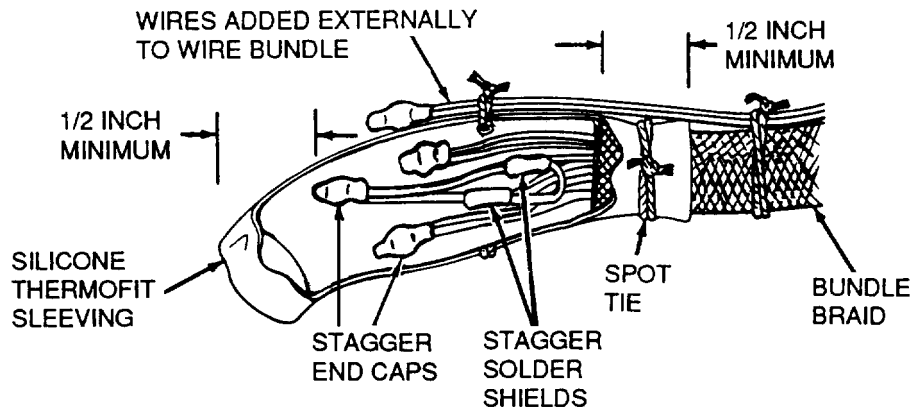
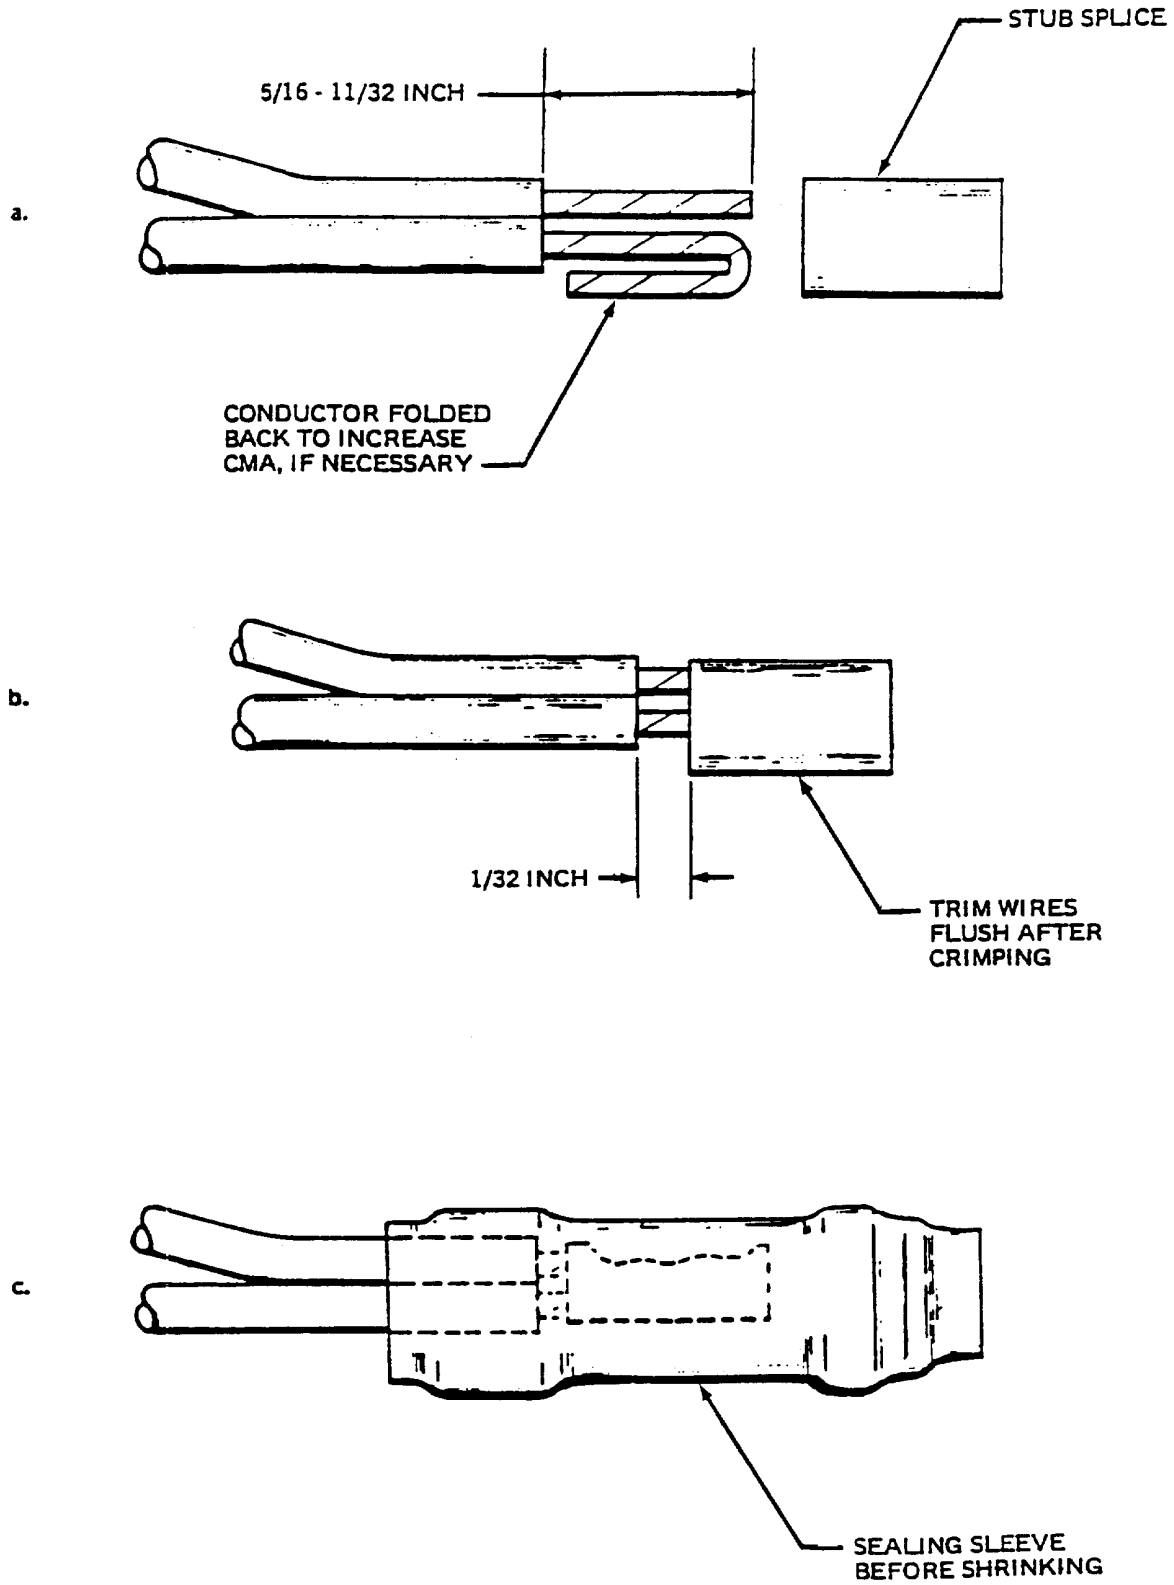

Figure 11. End Cap Area with Parallel Splices.
Figure 12. Environmental Sealed Stub Splice Installation
- e. When more than one wire in a harness is end capped, ensure wires are cut to stagger end caps to maintain harness dimensions (Figure 11).
- i. Completed stub splice assembly must meet dimensional requirements (Figure 11).
- (1) Individual stub splices have been completely insulated.
- (2) Splices have been staggered to limit bundle enlargement.
- b. Select the correct size stub splice by comparing the total Circular Mil Area (CMA) of the wires to be spliced (Table 5) with the CMA range of the crimp barrel (Table 6). The total CMA of the wires to be crimped together must fall within the range listed for a particular crimp barrel. The total CMA of the wires to be spliced can be increased by doubling one or more wires back (Figure 12).